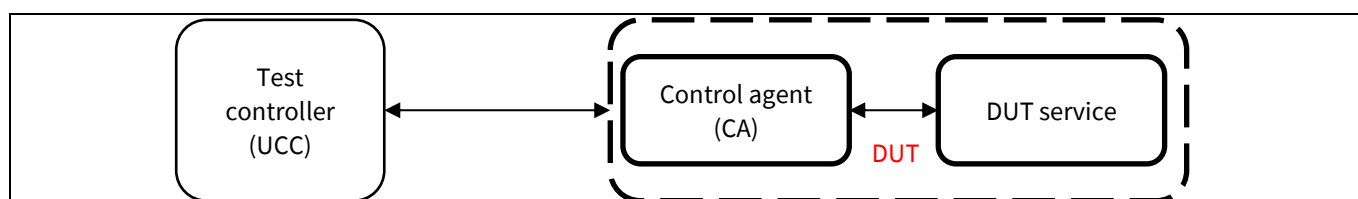

Figure 14 UCC-DUT setup
5.1.3 Control agent (CA)
A control agent (CA) is a proxy in which a CAPI control command is received for the device. As shown in Figure 14, you can run control agents inside the DUT, but some DUTs run these control agents outside of the DUT. The control agent typically opens a passive TCP socket on a selected port and waits for the UCC to connect to it. The UCC is configured to perform an active TCP socket to the control agent. The control agent collects the necessary information from the DUT service and returns it to the UCC.